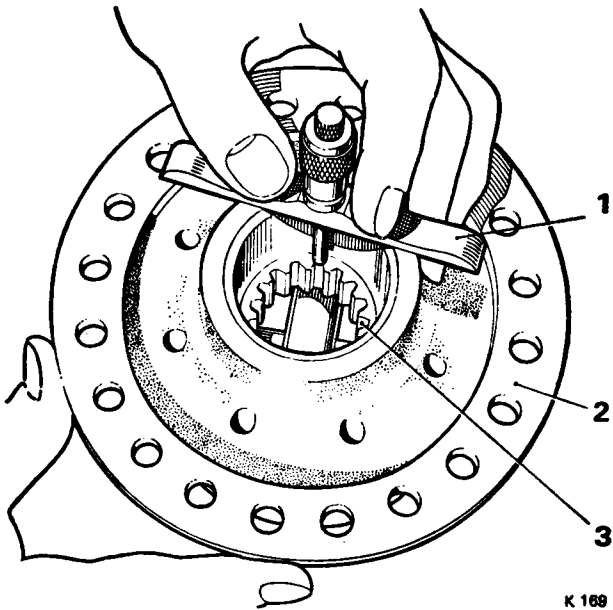

FIG. J4 SPLINED BEVEL PINION MEASUREMENT
6. Pull the gear back out of mesh as far as possible and again measure from the end of the housing to the end of the gear (see Fig. J4).